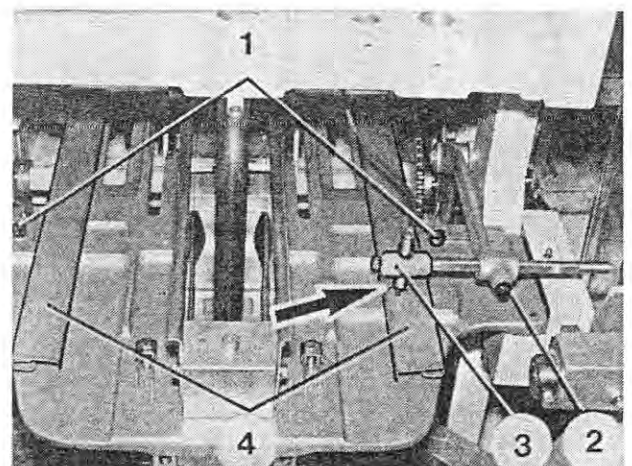

Fig. 187
2. Loosen the locking screws (Figure 187/1+2) of the wrapper guides (Figure 187/4) and of the sensor (Figure 187/3).
3. Adjust the wrapper guides to the mark which corresponds to the wrapper width. Tighten the locking screws (Figure 187/1).
4. Relocate the sensor rods in such a way that the sensor fits into the hole (Figure 187/arrow). Tighten the locking screw (Figure 187/2).